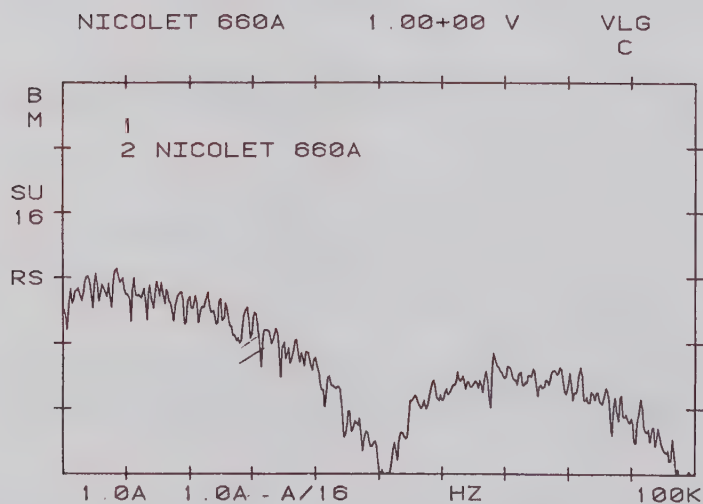

FIGURE T-6
- i. Copy ENTRY/RECALL line contents into TEXT LINE #2. See Figure T-6.